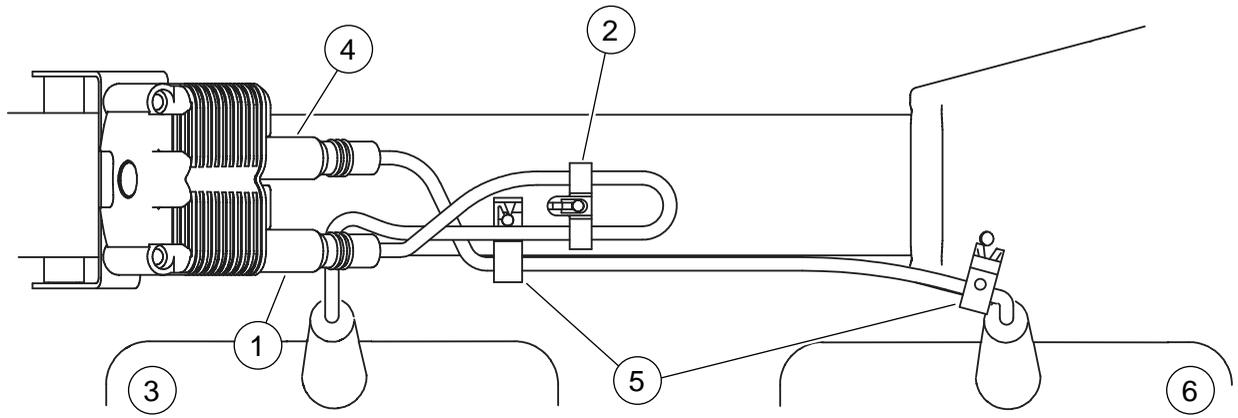

Figure 8-3. Remove Ignition Coil Bracket From Vehicle
3. See Figure 8-3. Remove ignition coil connector [83].
2. See Figure 8-3. With the coil towers facing rear, hold ignition coil and bracket at bottom of frame backbone. Pull sides of bracket outward and install on bosses of front fuel tank mount.